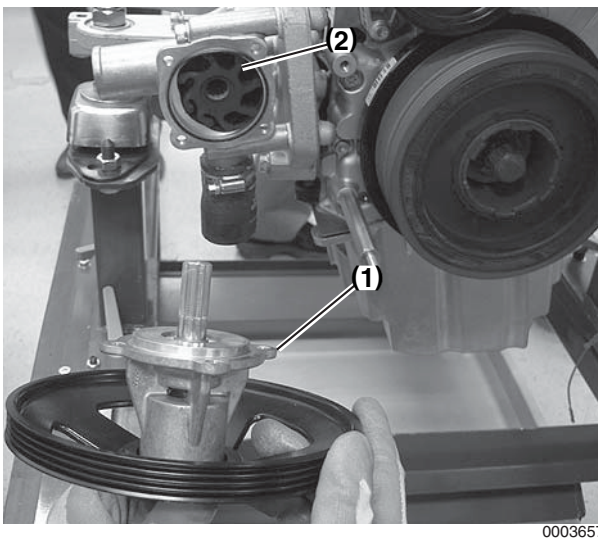

Figure 7-25
3. Remove four screws and remove the water pump cover, belt pulley and shaft as an assembly (**Figure 7-25, (1)**).
4. Remove the impeller (**Figure 7-25, (2)**) from the housing.